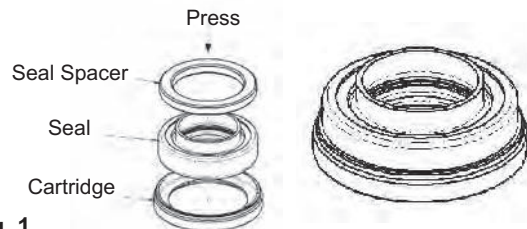

Fig. 1
1. To assemble the seal cartridge, remove the old seal from the cartridge by pressing it out. The cartridge is reused by assembling the new seal into cartridge, ensuring the new seal is pressed in with the lip seal on the opposite side as shown in Fig.1.